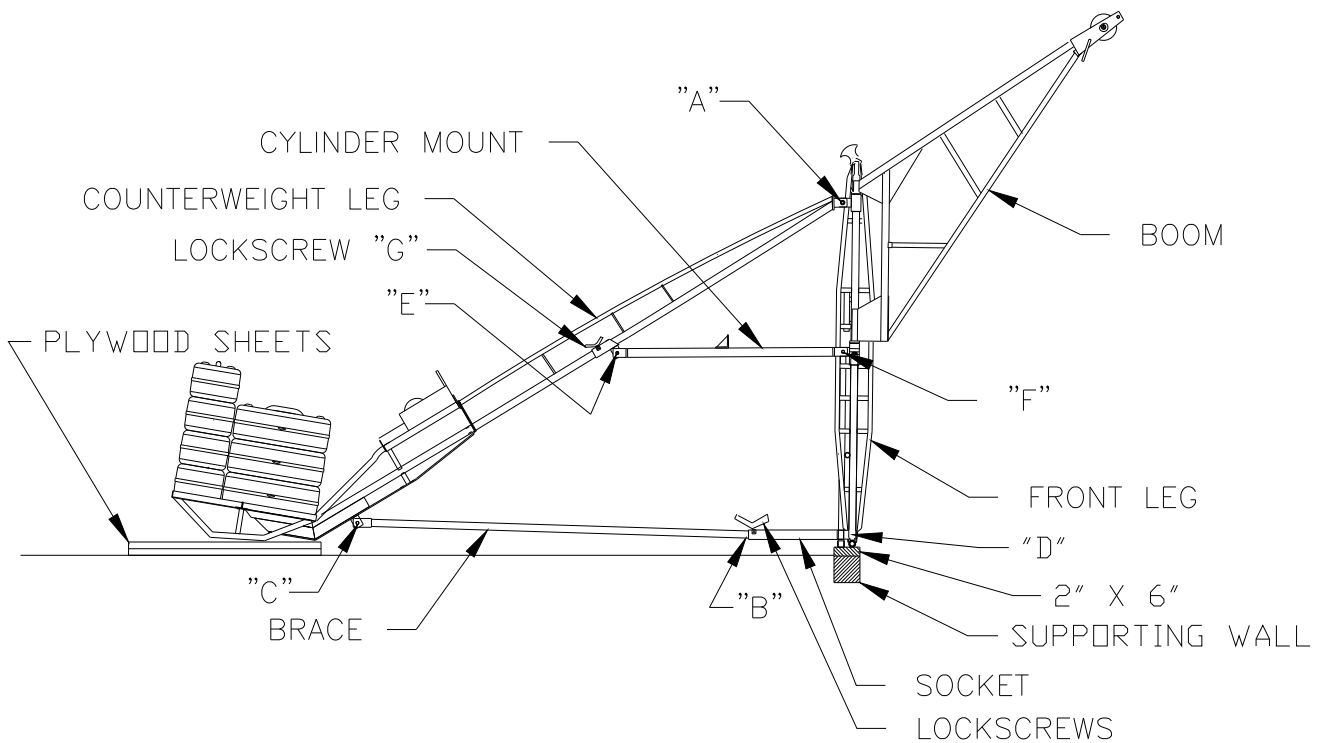

Figure 3-5.
1. Throughout the following procedure, refer to Figure 3-5. Begin by having one person stand the Front Leg vertically. Steady the Front Leg and ensure it is vertically plumb.
2. Connect the assembled Counterweight Leg to the Front Leg using the pin and hairpin as shown in Figure 3-5, point A.
3. Slide Socket into Brace at point B as shown in Figure 3-5. Note that this Socket comes with the Cylinder carton.
4. Connect the Brace to the Counterweight Leg at point "C" using the pin and hairpin as shown in Figure 3-5. Connect the Socket to the Front Leg at point "D" using the pin and hairpin. Tighten the two lock screws at point "B".
5. Connect the Cylinder Mount to the Front Leg at point "F" using the pin and hairpin as shown in Figure 3-5. Connect the Cylinder Mount to the Counterweight Leg via the sliding tube at point "E" using the pin and hairpin. The flat face of the Cylinder Mount must point toward the Front Leg. Tighten the two lock screws at point "G" on the sliding tube connecting the Cylinder Mount to the Counterweight Leg.
- 7. Move hoist assembly near roof edge of supporting wall. Ensure the Front Leg is mounted to 2”x 6” board to distribute the load and the board fastened to the supporting wall. See Figure 3-5. Ensure 3/4” plywood is placed under Counterweight Basket to distribute the weight. Lower Operator Fence on Front Leg to operating position. Ensure Counterweight Leg is perpendicular to Front Leg/Stabilizer as shown in Figure 4-2. If wire rope contacts Front Leg when in operation, Counterweight Leg is not positioned properly.